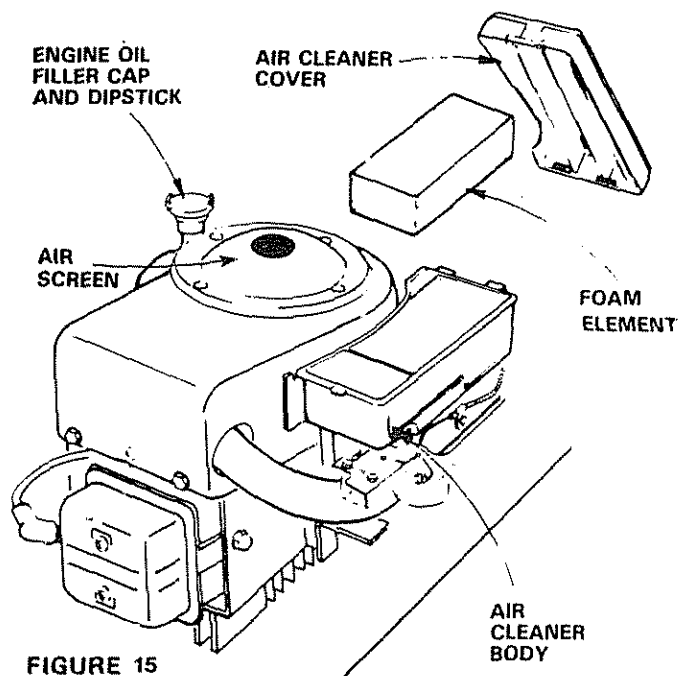
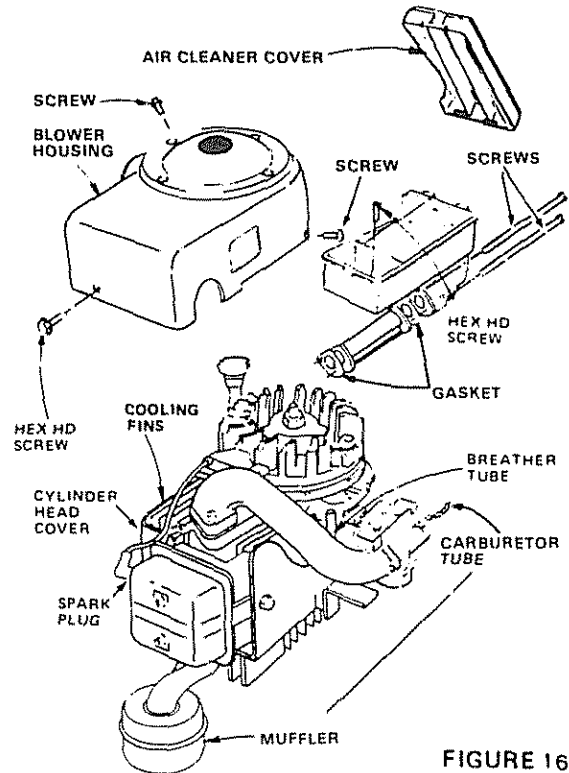

FIGURE 15
FIGURE 16
7. Clean Air Cleaner Element (Fig. 15)
Air screen and cooling fins (Figs 15 and 16) must be kept free of dirt and chaff to prevent engine damage from overheating. Clean with a wire brush or compressed air to remove dirt and dried gum fibers.
- Snap off air cleaner cover (Fig 15)
- Remove 3 screws securing air cleaner body (Figs 15 and 16) and remove. (Cover carburetor to prevent entry of dirt)
- Remove 3 screws from blower housing and lift housing off engine (Fig. 16)
- Use compressed air or stiff bristle brush to thoroughly clean engine cooling fins (Fig. 16) and air screen (Fig 15).
- Be certain carburetor tube, breather tube, and gaskets are in place (Fig. 16).
Be certain carburetor tube, breather tube, and gaskets are in place (Fig. 16).